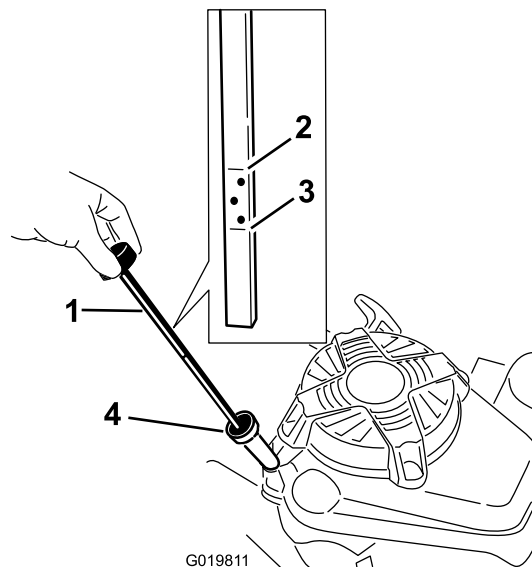

Figure 7
3. If the crankcase is empty, add about 3/4 of the crankcase capacity of oil into the oil-fill tube (Figure 7).
6. Read the oil level on the dipstick (Figure 7).